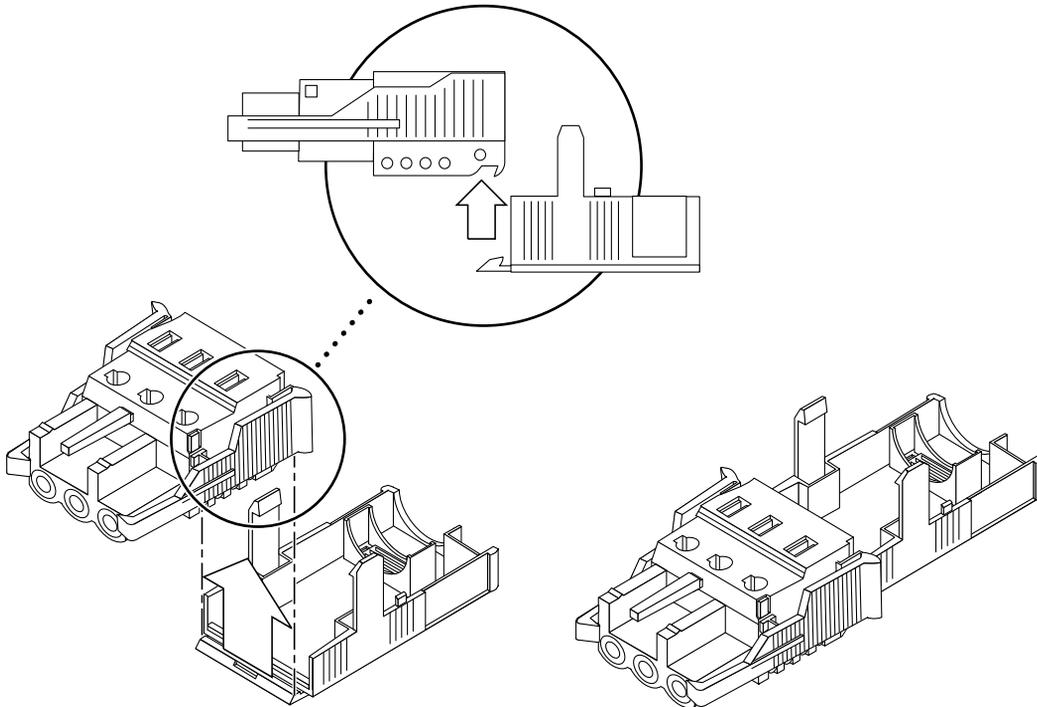

FIGURE 2-10 Inserting the Bottom Portion of the Strain Relief Housing
1. Insert the bottom portion of the strain relief housing into the notch on the bottom of the DC connector until it snaps into place as shown in FIGURE 2-10.